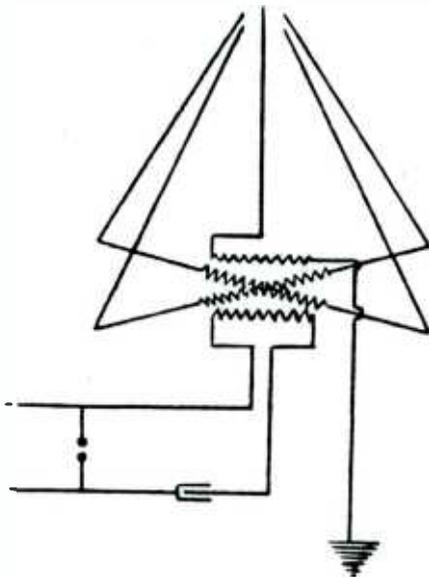

Fig. 4
The two uprights shown in Fig. 3 and Fig. 4 are made of 1/4 inch brass. The screws in the top of each upright holding the platinum points are made of brass, having threads cut on each as shown. These platinum points are soldered into place, the point shown in Fig. 3 being about 3/32 inch diameter, while that in Fig. 4 may be much smaller.
Probably the most interesting as well as one of the most ingenious systems now in use is that of Messrs. Bellini and Fosi, one type of which is shown diagrammatically in Fig. 4. In their method two triangular aerials are employed which are open a short distance from the top and which are placed in a fixed position at right angles to each other. These aerials are excited from the secondaries of an oscillation transformer of special design known as the "radiogoniometer."* This instrument employs two entirely separate secondaries which are placed at right angles to each other so as to form a cross, their terminals being connected directly to the aerials in the manner indicated in the figure. A single primary, which is capable of being rotated on a vertical axis through any desired angle, is placed within the secondaries and is excited in the usual manner by means of an induction coil or a high tension transformer. By this arrangement the relative values of the strength of the oscillations induced in the fixed secondaries is made dependent upon the position of the primary, and the radiations from the two aerials are governed accordingly. The interaction of the waves of different intensities emitted from the triangular aerials combine according to the parallelogram law and form a resultant radiation which will have a direction in a line through the primary coil. Hence by turning the primary so as to point in the direction in which it is desired to send, the waves may be transmitted in that direction only. A similar operation is performed in receiving from a desired direction; the radiations being resolved into two components by the fixed coils (which in this case become primaries) and affect the secondary only when it is in such a position as to point in the direction of the transmitting station.
The part shown in Fig. 4 is made of very thin sheet copper. Cut a rectangular piece (Fig. 4) $\frac{3}{4}$ inch by $\frac{1}{2}$ inch with projecting lugs at the corners, $\frac{1}{16}$ by $\frac{1}{8}$ inch. Slit these lugs with a pair of scissors and bend half of each in opposite directions, so as to make a small groove in which the platinum wire rests and supports the rider. Cut a $\frac{1}{8}$ inch slit in the middle of the rider with a penknife and insert in it a strip of
the same copper $\frac{1}{8}$ inch by 2 inches so that 1 inch projects on each side of the rider. Solder it at right angles to the rider with a trace of solder, then with a pair of round nose pliers, bend the ends of this strip into sextants in opposite directions, leaving $\frac{1}{2}$ inch of each part of the strip straight (A, Fig. 4). Next attach two fine silk threads to the sextants, tying them in holes
M.E. -FIG. 4-
pointer, is made of the same copper as the rider in Fig. 4. A projecting arm carries a sextant similar to those in Fig. 4, to a hole, in the free end of which the thread from the rider on the wire couple is to be attached. The pointer fastened to C is of No. 24 aluminum wire, held by being passed through a hole, around the top of C, and again through the same hole, and being clinched with a pair of pincers. The